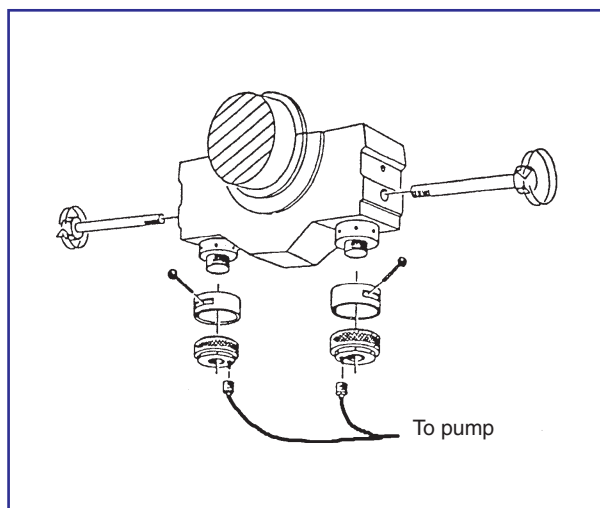

Fig 1 Mounting of Hydraulic Tools
- 4) Mount the hydraulic tools, see fig 1, and loosen the guide bearing stud nuts. For operation of the hydraulic tools, see working card 620-01.05.